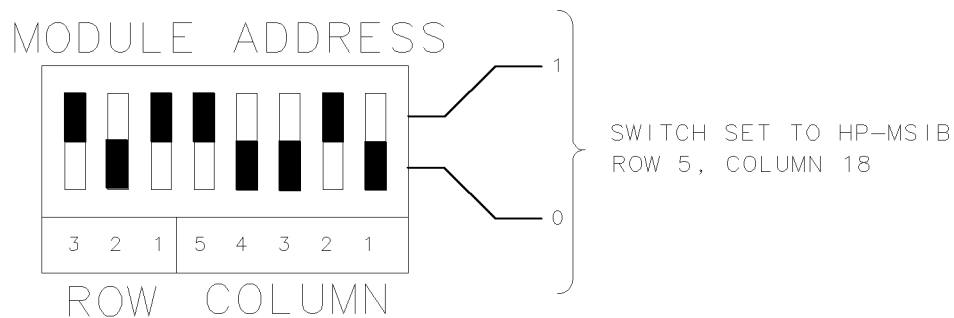

Figure 2-2. HP 70907A/B Address Switches
1. Set the three ROW switches to the binary value of the module's HP-MSIB row number. For example, if the row number is 5, change the switches to binary 101 as shown in Figure 2-2.
2. Set the five COLUMN switches to the binary value of the module's HP-MSIB column number. For example, if the column number is 18, change the switches to binary 10010 as shown in Figure 2-2.